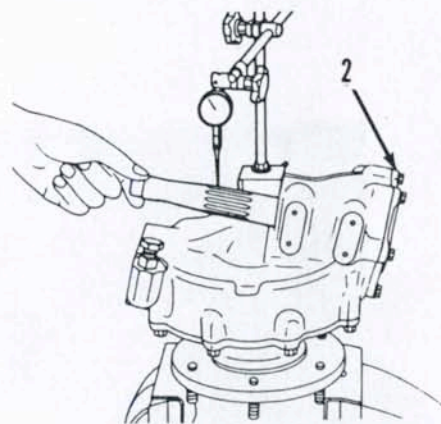
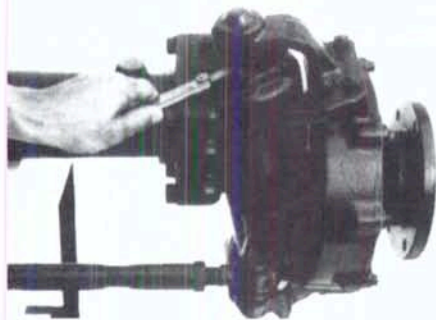

Fig. 13—Check backlash between lower bevel gear and axle bevel gear and adjust as necessary with shims (2) at lower bearing cap.
Fig. 14—Use a feeler gage to check knuckle pin to support clearance. Add or remove knuckle support mounting shims to obtain desired clearance.
(12—Fig. 10) and differential yoke shaft gear (7) should be 0.15-0.30 mm (0.006-0.012 inch). Use a dial indicator to check backlash as shown in Fig. 12, then add or remove shims (1) between bevel gear housing and axle housing to obtain desired backlash. Recommended backlash between lower bevel gear (23—Fig. 10) and axle shaft bevel gear (26) is 0.15-0.30 mm (0.006-0.012 inch). Use a dial indicator to check backlash as shown in Fig. 13, then add or remove shims (2) at lower bearing cap to obtain desired backlash. Tighten axle flange mounting cap screws to a torque of 20-34 N·m (15-25 ft.-lbs.). Tighten bevel gear case to axle housing mounting cap screws to a torque of 98-132 N·m (75-95 ft.-lbs.). Tighten knuckle support or steering arm mounting nuts to a torque of 80-90 N·m (60-65 ft.-lbs.), then measure clearance between support and pivot pin bracket with a feeler gage as shown in Fig. 14. Adjust shim pack under knuckle support as needed to obtain desired clearance of 0.1-0.2 mm (0.004-0.008 inch). Check end play of ax-